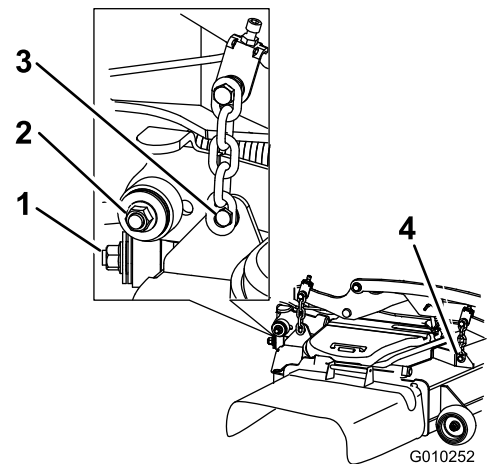

Figure 103
7. Remove and retain the hardware on both sides of the deck (Figure 103).